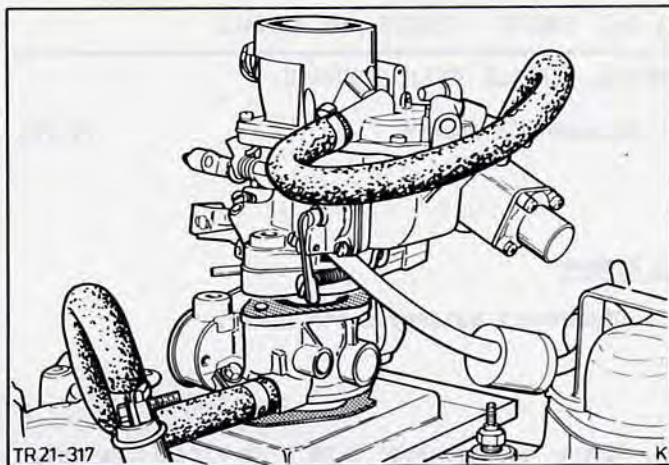

Fig.76. Remove carburettor.
8. Remove carburettor complete with deceleration valve and governor (2 bolts), Fig.76.